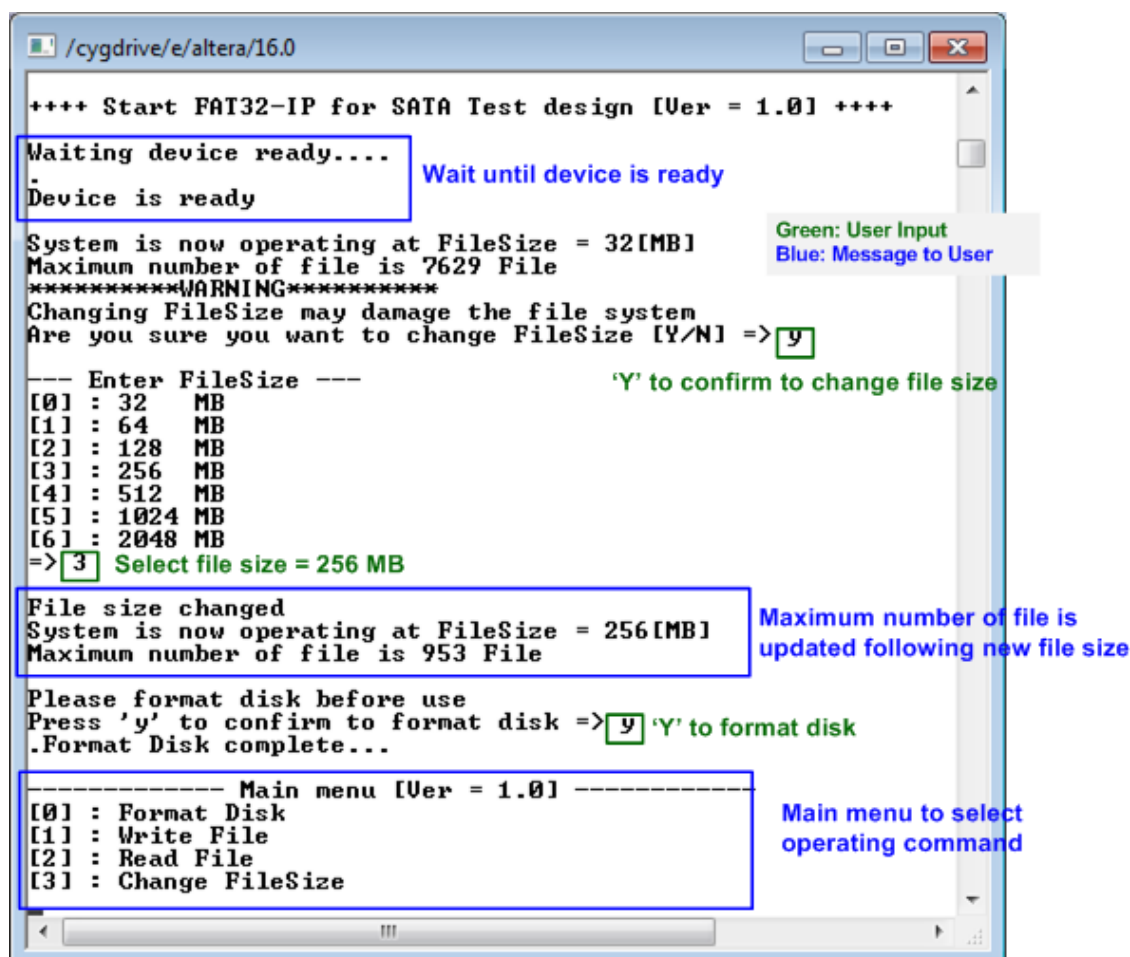
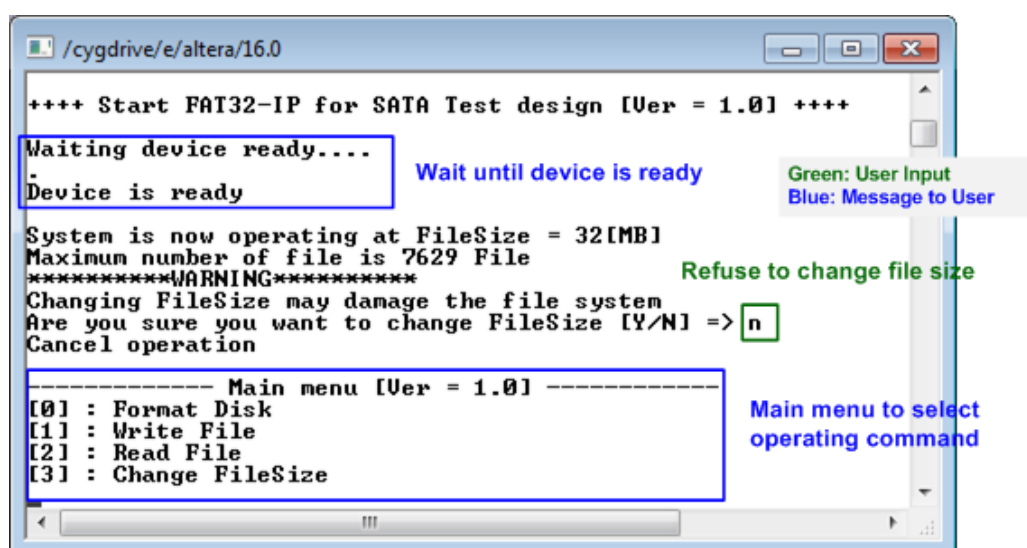

Figure 2-6 Main menu when confirm to set file size
Figure 2-7 Main menu when skip to set file size
- 8) Open NiosII Command Shell and run nios2-terminal command. Boot message is displayed. User can set file size by press 'y' or 'Y'. If user refuses to set file size, it will be set to default (32 MB). After that, main menu is displayed on the command shell, as shown in Figure 2-6 and Figure 2-7.